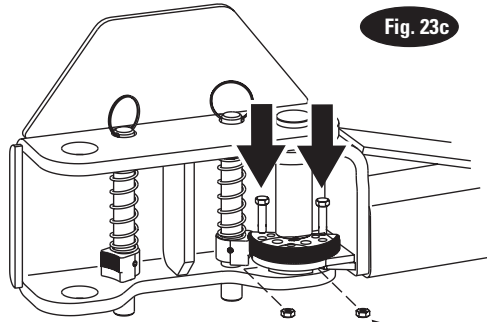

Fig. 23c
**Arms With 5 Holes In Bearing Bar:** Then, install the (2) 3/8"-16NC x 1-1/2" HHCS (8 total for all 4 arms) and 3/8" Spring Lock washers into the gear and arm, but do not tighten. Reference Fig. 23c, Fig. 24a, and Fig. 24b.
**Arms With 3 Holes In Bearing Bars:** Then, install the (2) 3/8"-16NC x 1-1/2" Lg. HHCS ((8) total for all (4) arms) into the gear and arm. Using 3/8" hex jam nuts, secure restraint gears to arms. Reference Fig. 23c and Fig. 24b.